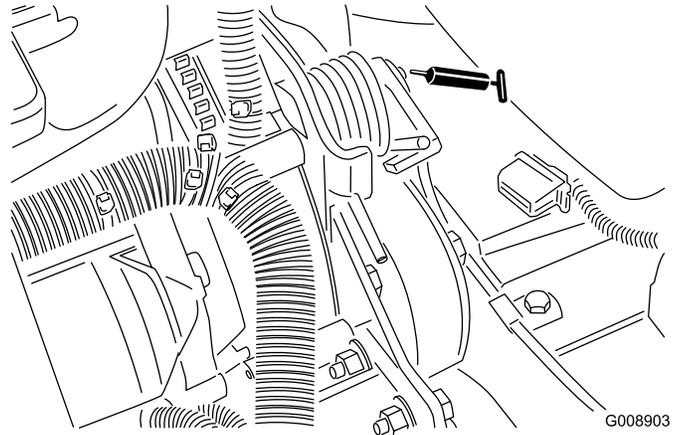

Figure 62
- Belt tension pivot (Figure 62)